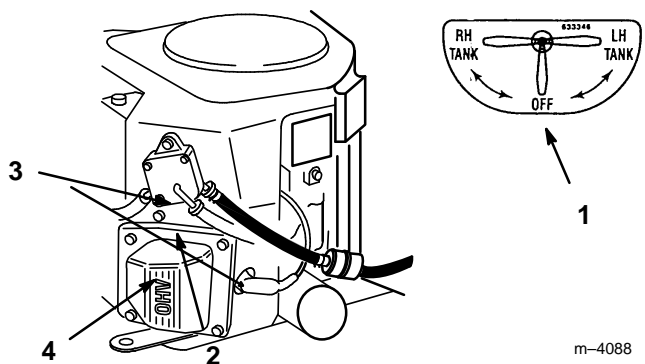

Figure 39
5. Install a new filter and move the hose clamps close to the filter (Fig. 39).
2. Close fuel shut-off valve (Fig. 39).
3. Loosen the hose clamp at the fuel filter and slide it up the fuel line away from the fuel filter (Fig. 39).
4. Pull the fuel line off fuel filter (Fig. 39).
5. Open fuel shut-off valve for left and right tanks. Allow gasoline to drain into a gas can or drain pan. (Fig. 39).
6. Install the fuel line onto the fuel filter. Slide the hose clamp close to the fuel filter to secure the fuel line (Fig. 39).